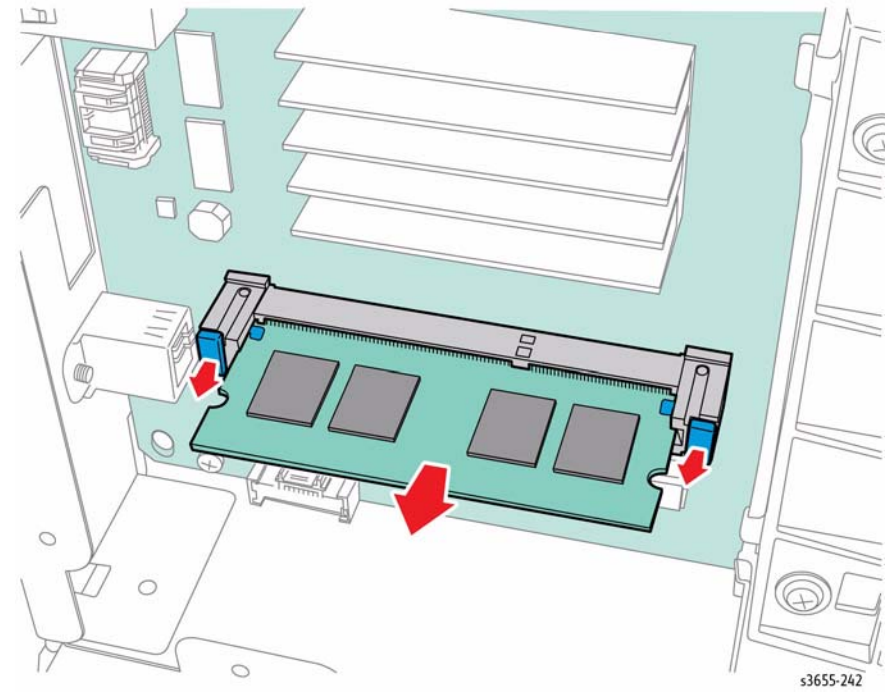

Figure 1 Remove the RAM
7. Refer to Figure 1 to locate and release 2 clamps that secure the RAM to the socket on the IP Board, then gently remove the RAM.